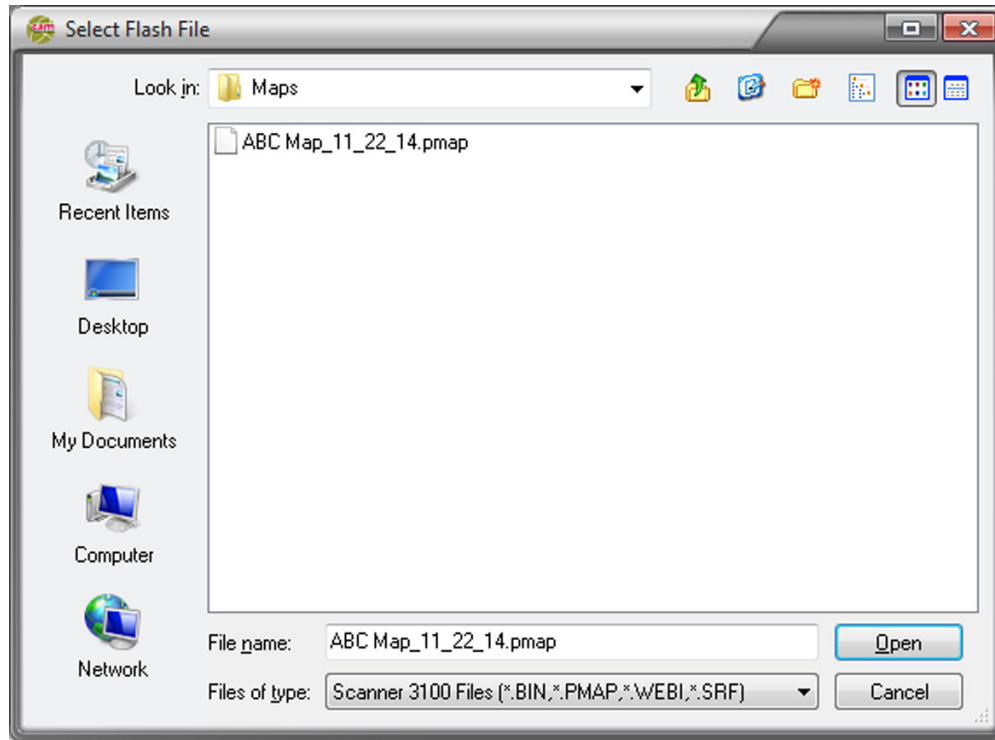

Figure 5.8—Select Flash File dialog
4. Select the Modbus map (.pmp) to be uploaded from C:\Cameron Data\ScanMap\Maps (Figure 5.8, page 29).